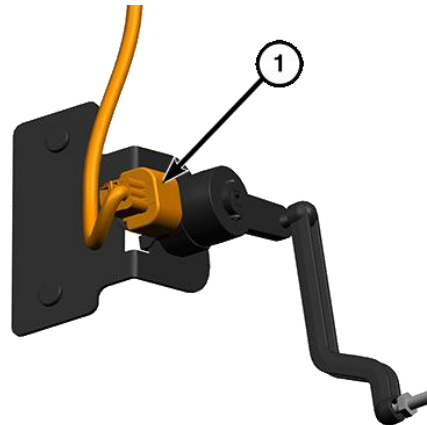

Figure 20 – Electrical Connector
25. **If equipped,** Disconnect the wire harness connector (1) from the vehicle height sensor (Figure 20).